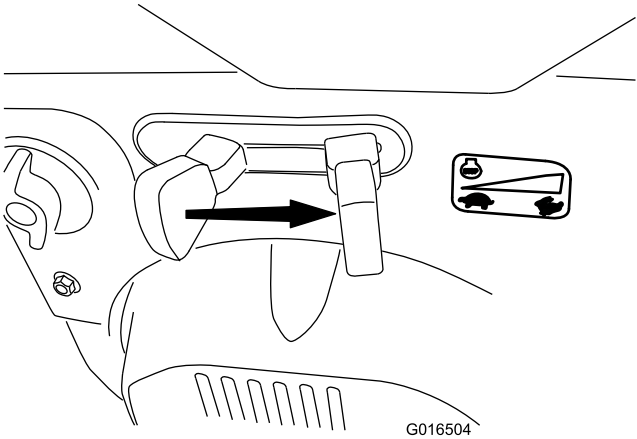

Figure 28
6. Move the throttle to the FAST position (Figure 28).